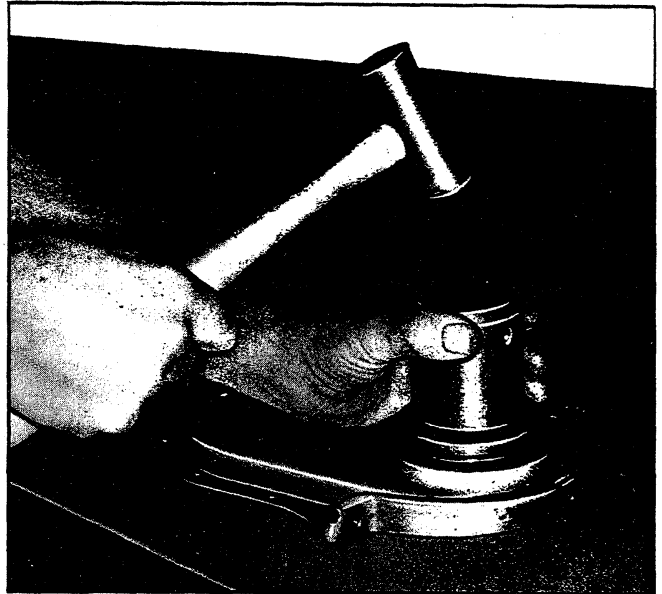
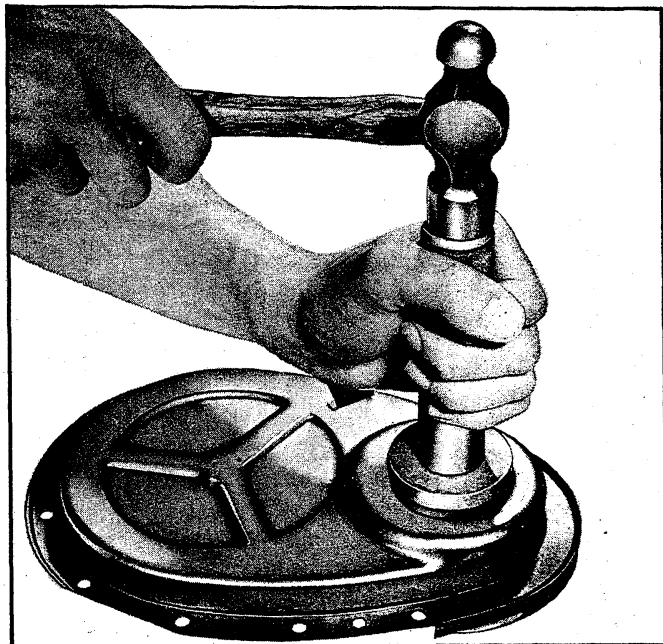

Fig. 17V - Installing Oil Seal (Cover Removed)
Fig. 16V - Installing Oil Seal (Cover Removed)
2. Install new seal so that open end of the seal is toward the inside of cover and drive it into position with Tool J-995 on 283, 327 and 350 cu. in. engines (fig. 16V) or Tool J-22102 on 396 and 427 cu. in. engines (fig. 17V).